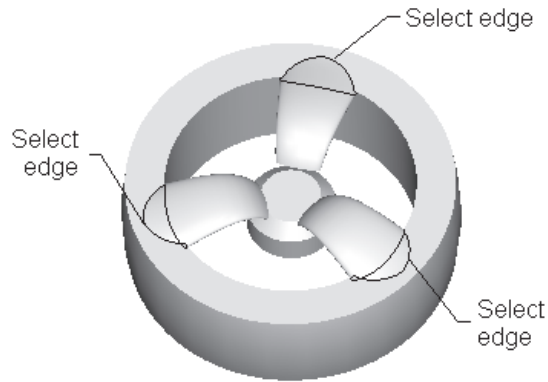

Figure 8-74 Edges to round
4. Select the edges shown in Figure 8-74 to round. You may need to spin the model to select the inner edges of the swept blend feature.